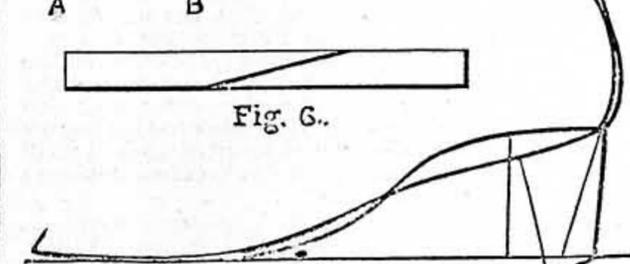
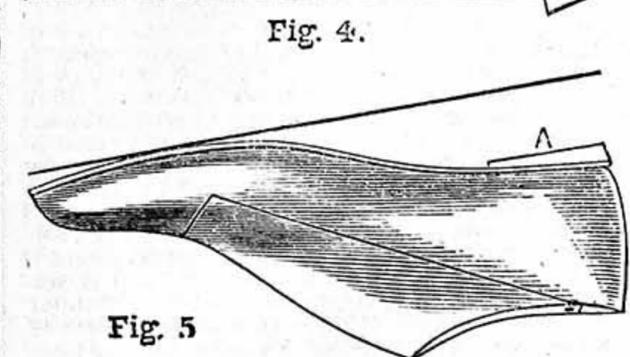

Fig. 4.
Fig. 5.
bottoms are given in Fig. 4, to contrast the pitches of the same heel on the two different lasts. (2) Yes; the insole of pegged boots should be made broad, and thinned down at the edge, but it should be left its original substance where the pegs are going. To bring the range right for pegged work (as it cannot be feathered and sewn full to set it right), it must have a wedge-lift pegged to the insole, before lasting (as A, Fig. 5). This is done to have the same effect as produced by altering the last, only that it is left in the boot where it is not seen. It need not be a whole lift—a split lift will do—but it must be thick at A. But I would advise you to alter the last as much for one as the other. (3) A split lift is put in, in building the heel of sewn boots, to level the seat (to receive the whole lifts), which would otherwise be round in the centre, and necessitate cutting the centre away, and making a part of the boot weak that should be most solid. (4) If you are making light pegged work, the "slip" sole